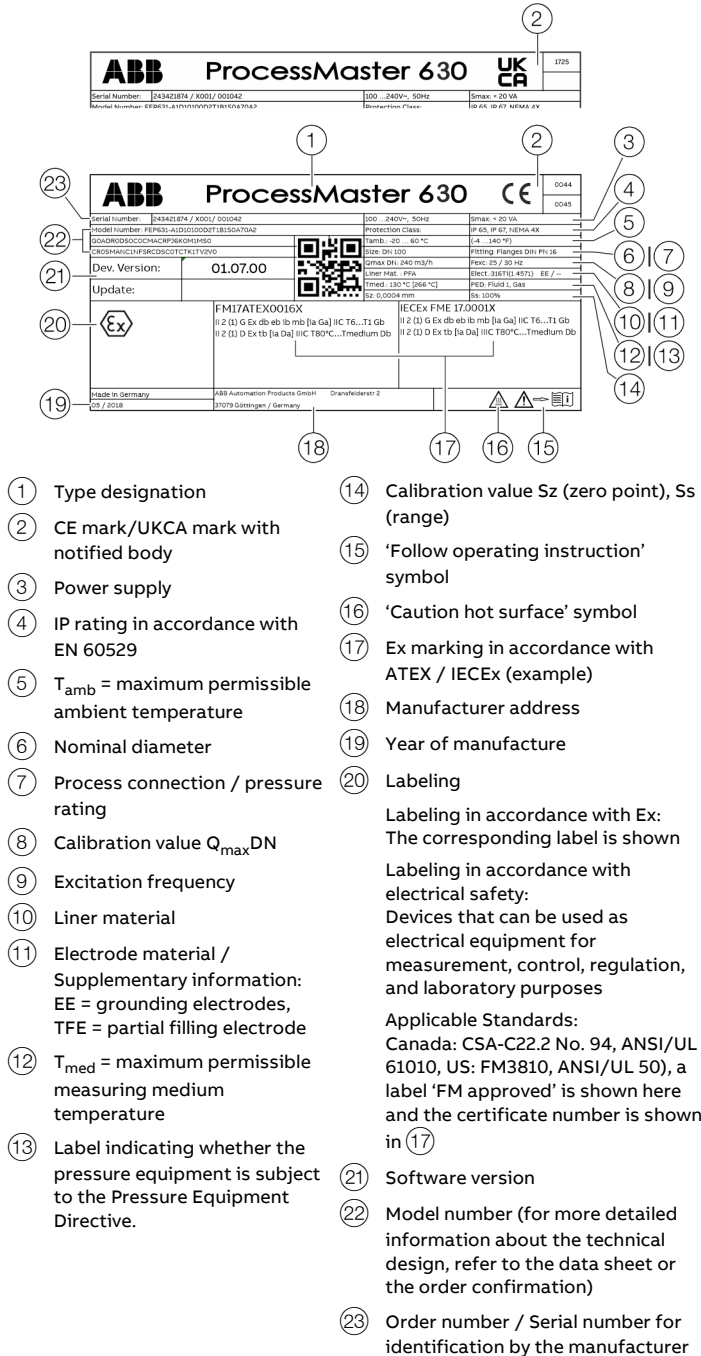

Figure 4: Name plate (example)
Information on the relevant fluid group (Figure 4, Position (13)):